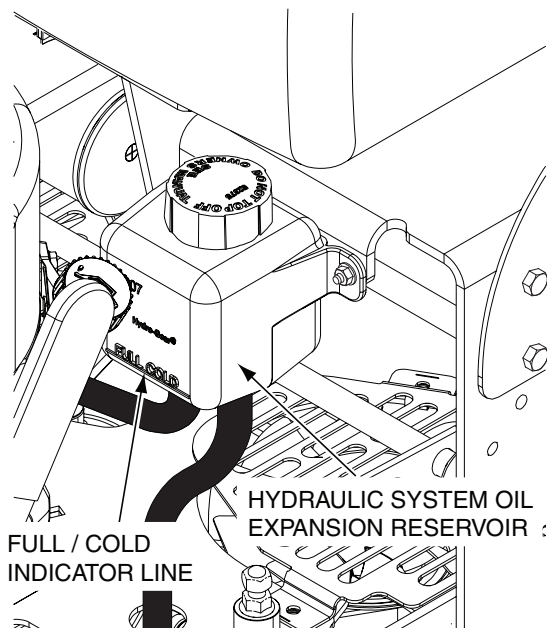

Figure 7-1. Hydraulic System Oil Level
2. When the machine is "cold" (before operation), visually check the level of the hydraulic system oil. Hydraulic system oil level should be up to the FULL / COLD indicator line on the hydraulic expansion reservoir. See Figure 7-1. DO NOT overfill; (overfilling the oil reservoir may cause oil seepage).